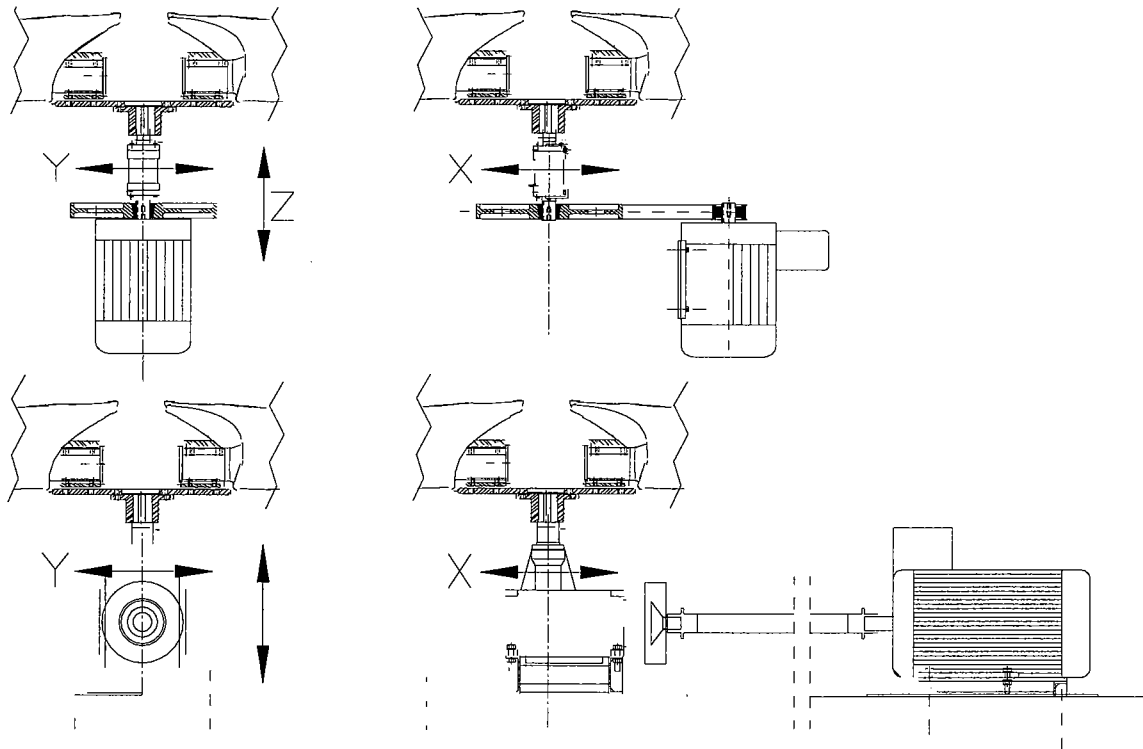

Fig.6
- b) Check the vibrations level in the position shown in Fig.6 do not exceed the most restrictive amplitude values between the limits imposed by the normative of the structure where the fan is installed and the limits imposed by the VDI 2056 normative. In this case, shut down the unit and trace the cause of such excessive vibration by referring to section 4.3 of the following chapter.
- f) Check the vibrations level in the position shown in Fig.6 at regular intervals.